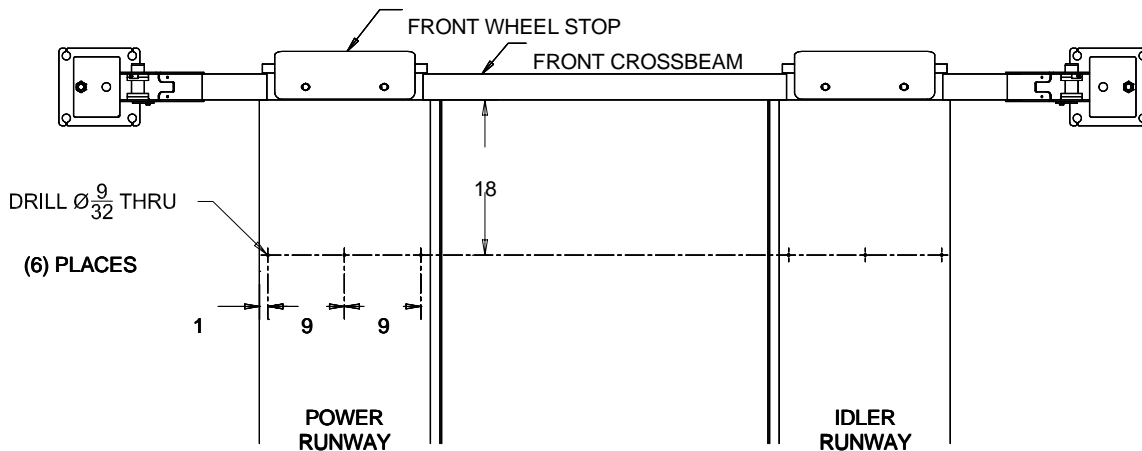

Fig 2 – Front Guide Bar Location
- 2) Locate and drill three 7/32" holes in the Power Runway 18" back from the Front Cross Beam as indicated in Fig 2. Use the front Guide Bar as a template and use a 2' carpenter's square to ensure Guide Bar is square with runway.